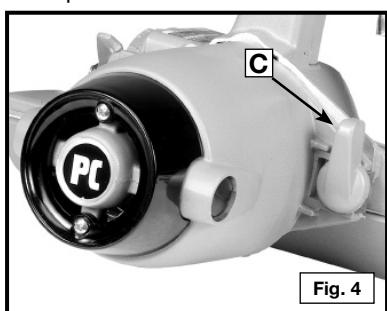
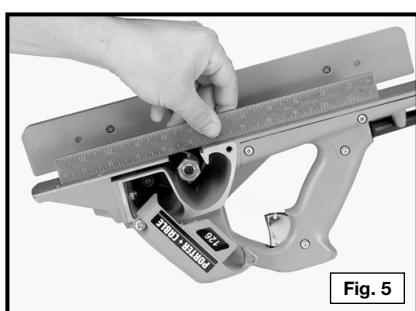

Fig. 4
Fig. 5
2. The cutter adjusting lever (C) Fig. 4 is located to the left of the handle directly behind the motor housing. Turn this lever to the position shown in Fig. 4.
3. Place a straight edge across the cutter opening (Fig. 5), so that it rests on both the front and rear shoe. Turn the cutter by hand until it lifts the straight edge to its maximum height. Adjust the lever (C) Fig. 4 until the top of the cutting edge just touches the straight edge while it rests evenly on both shoes. The cutter is set for "zero" cut.